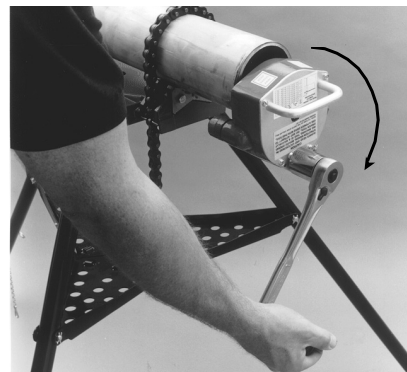

Fig. 4. Turning
4. Prepare a trial groove by tightening the brass feed nut the recommended turn increment, and then by turning the crank nut clockwise until the roll groover has made one full revolution around the pipe. (See Fig. 4.)